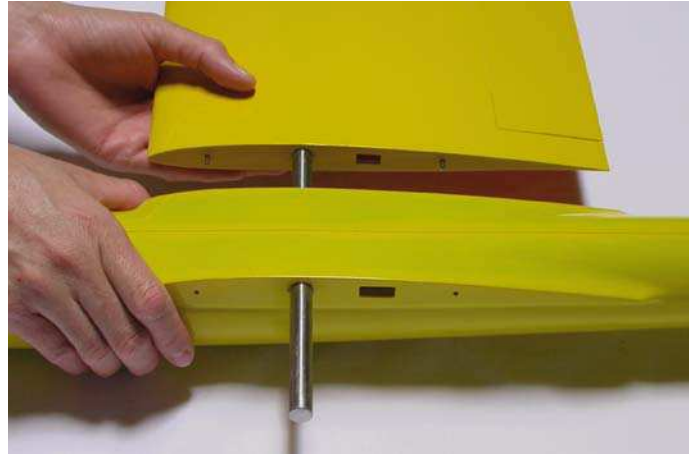

Fig.58: Inserting a wing-panel.
- insert a wing-panel (see figure 58);